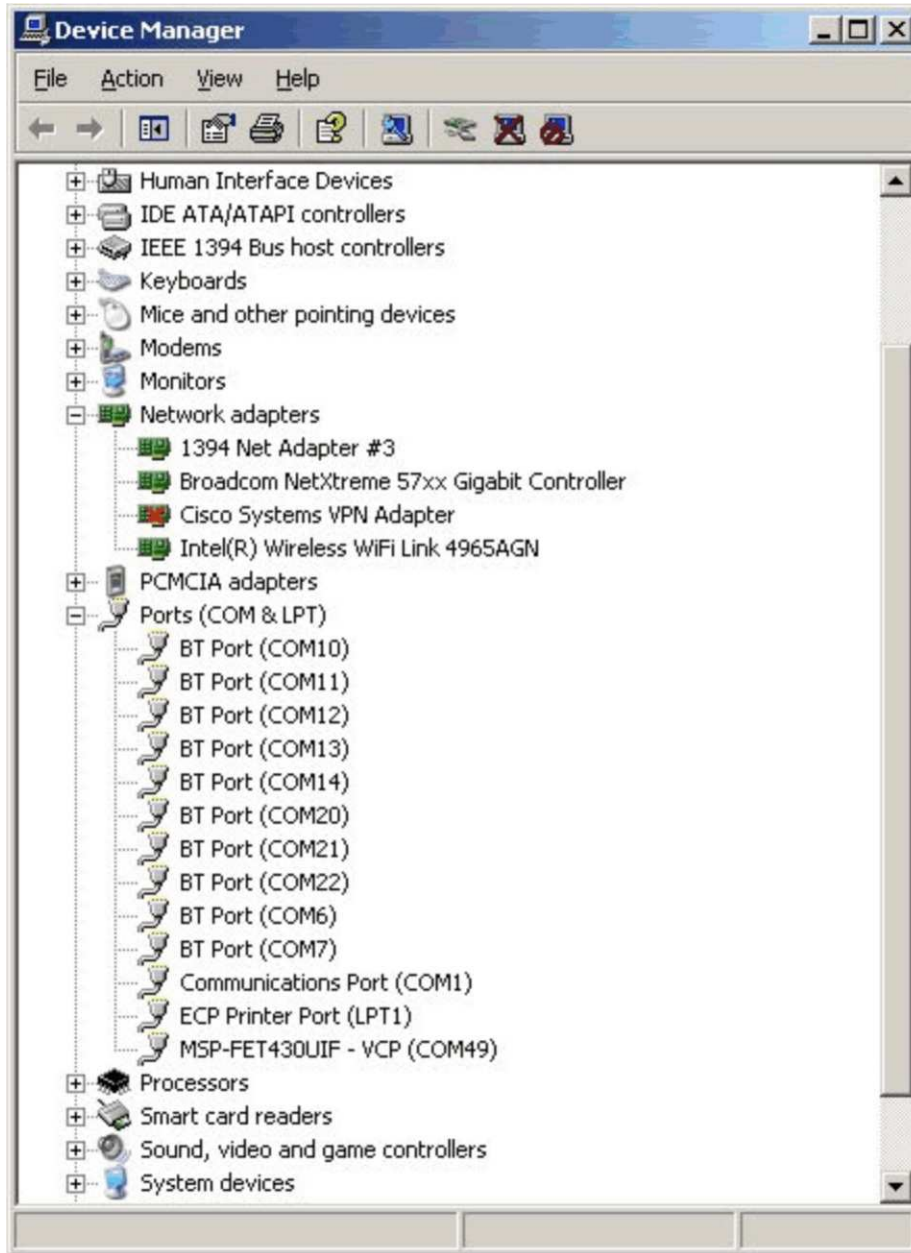
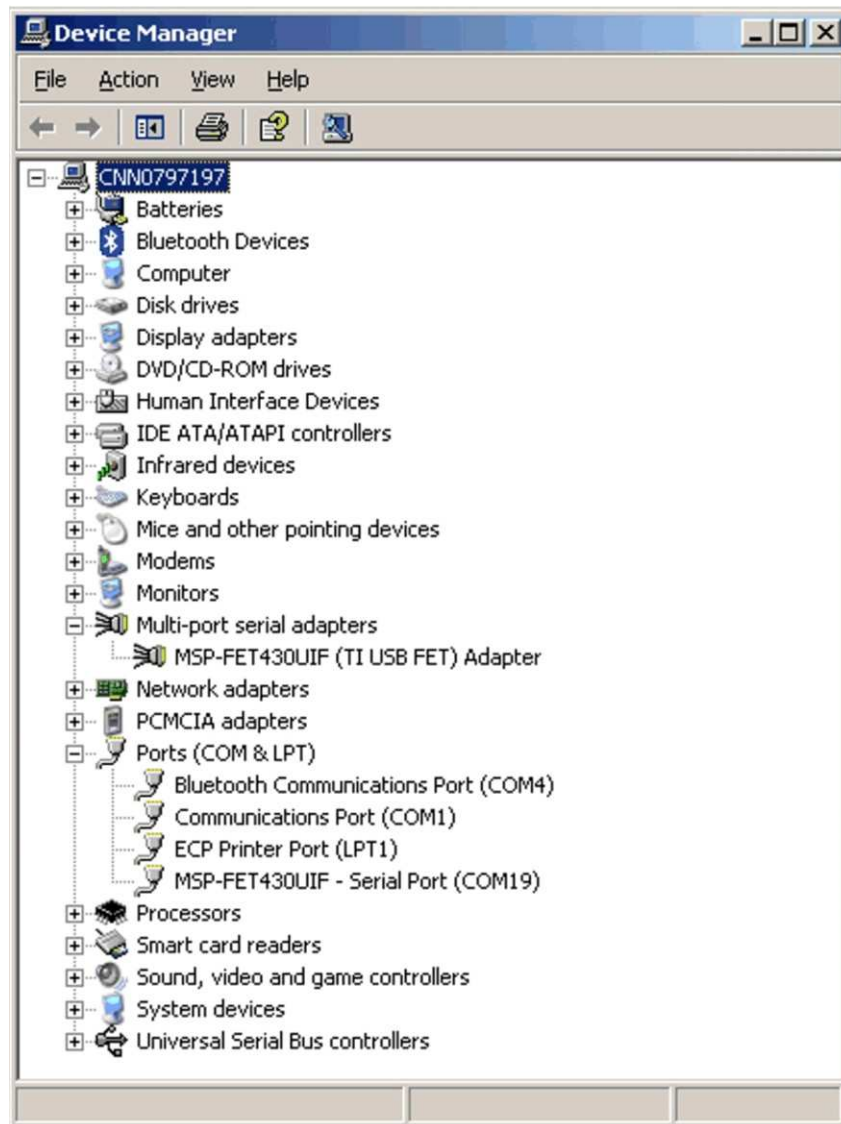
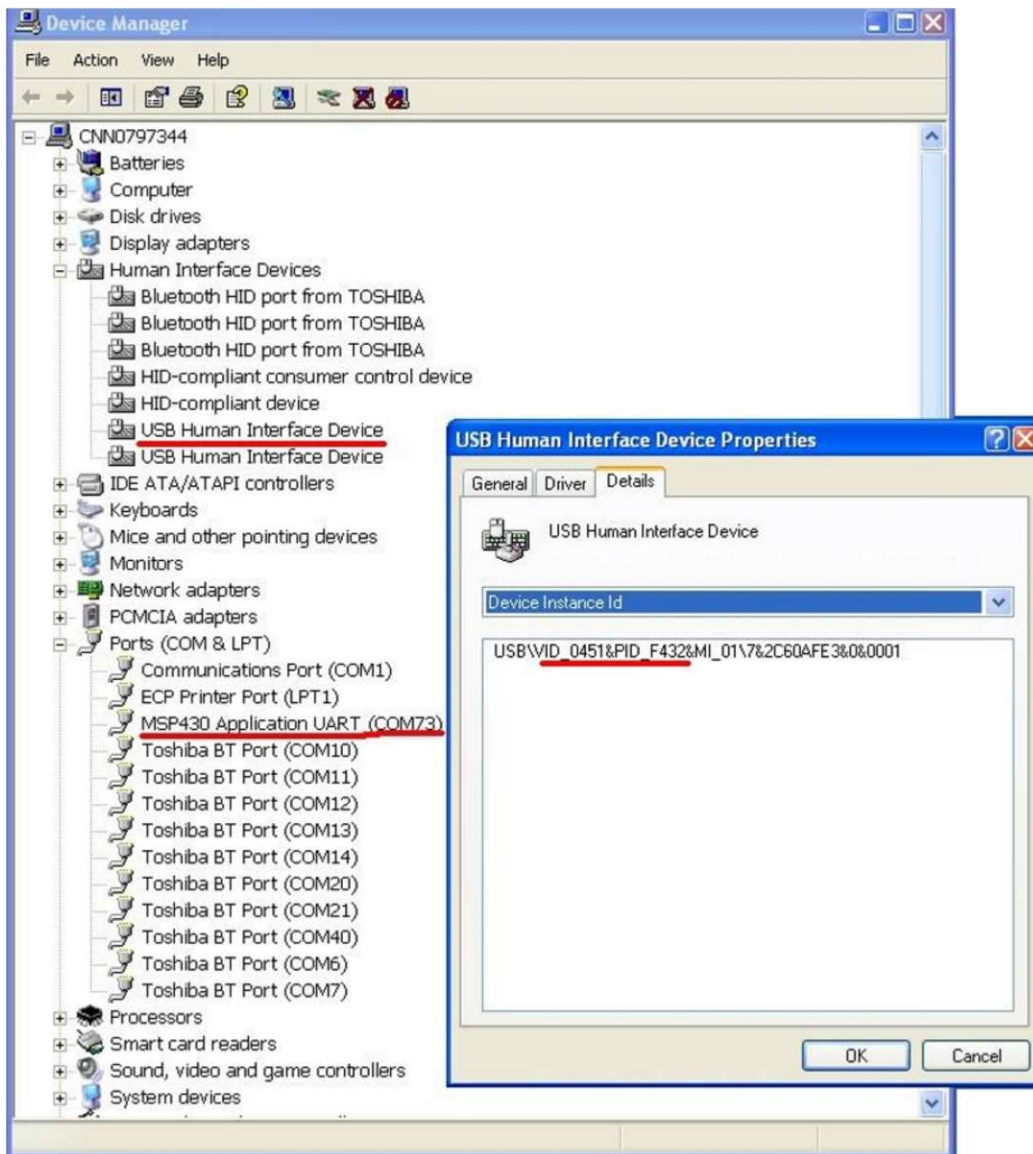

Figure C-5. Device Manager Using MSP-FET430UIF or eZ430-F2013 (CCE and CCS Only)
Figure C-6. Device Manager Using MSP-FET430UIF or eZ430-F2013 (IAR Only)
Figure C-7. Device Manager Using eZ430-RF2500 (CCE/CCS and IAR)
13. The USB debug interface is installed and ready to use. The Device Manager lists a new entry as shown in Figure C-5, Figure C-6, or Figure C-7.